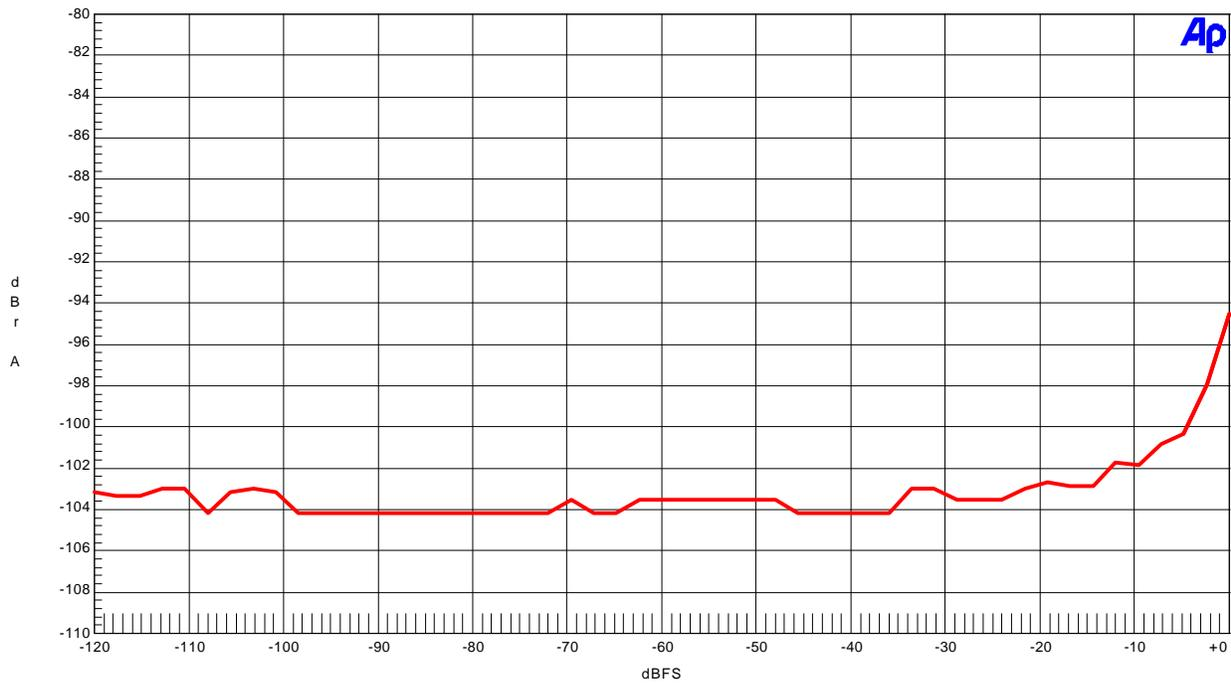

Figure20. THD+N vs Input Level (fin=1kHz)
- Figure20. THD+N vs Input Level (fin=1kHz)